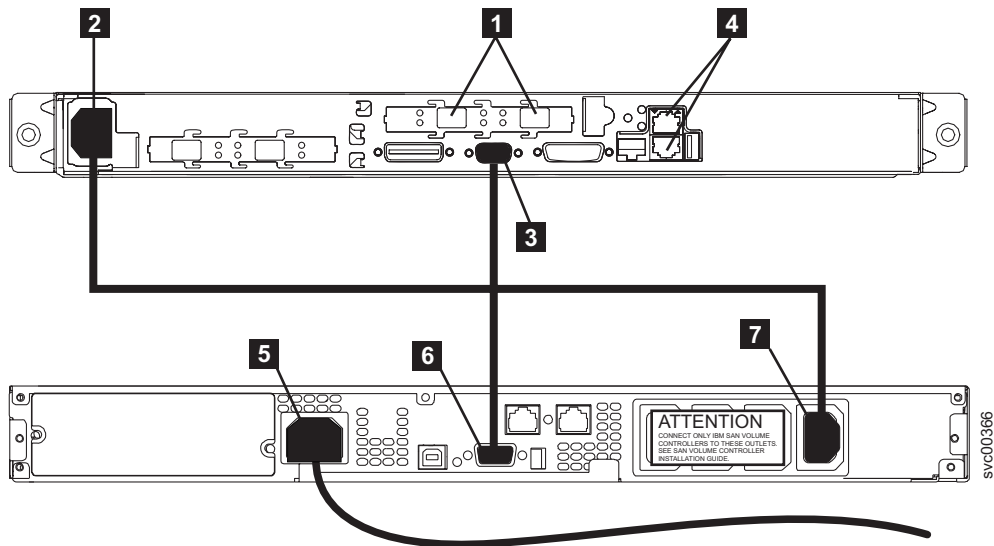

Figure 97. Connecting the SAN Volume Controller 2145-4F2 power cable to the 2145 UPS-1U
1. At the back of the SAN Volume Controller 2145-4F2, plug the combined power and serial cable into the power connector (**2** in Figure 97 on page 134).